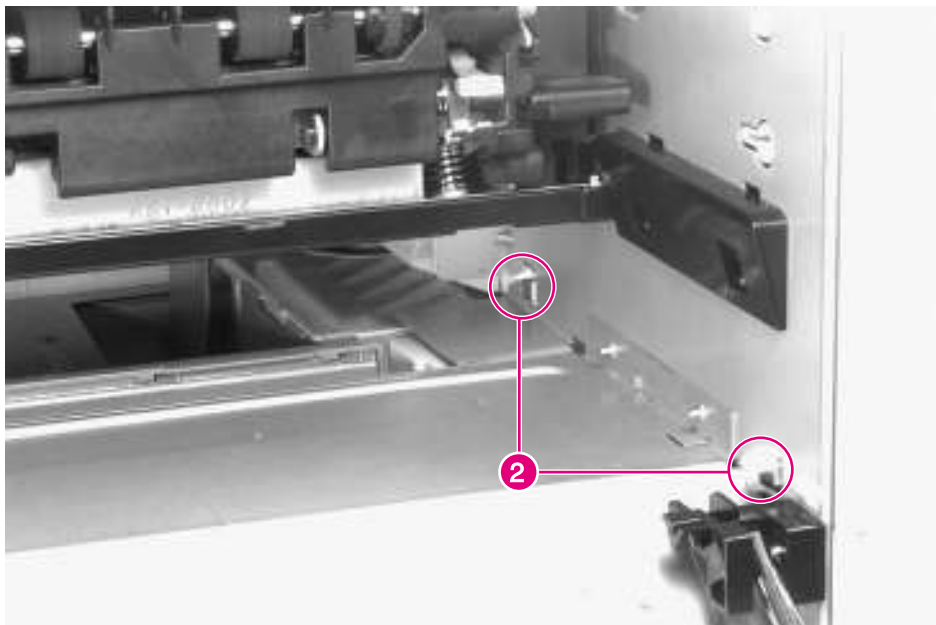

Figure 6-8 **Front Cover (2 of 2)**
- 3** Open the Diverter Access Door and release the two plastic retaining tabs inside the Duplexer cavity (figure 6-8, callout 2).